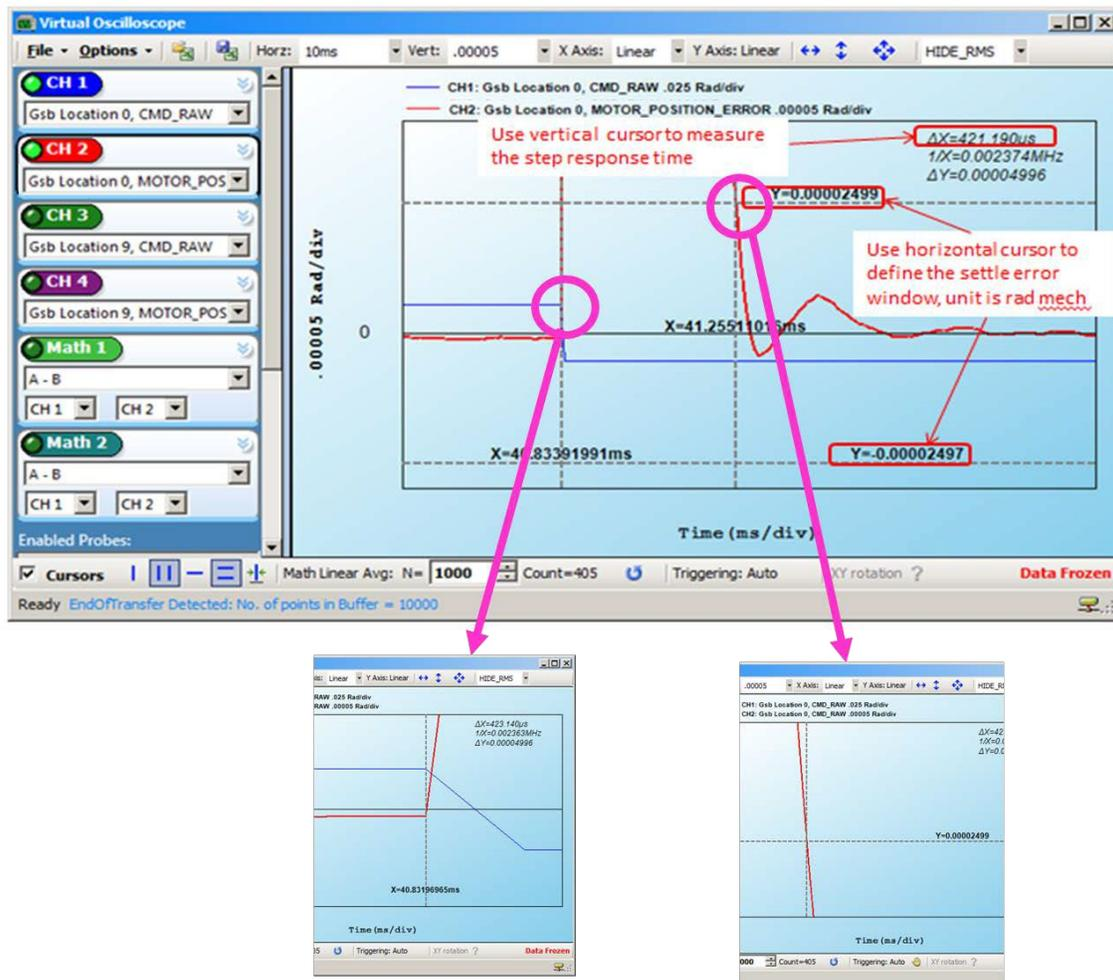

Figure 11 - Measure Step Response Time
3. Turn on the horizontal double cursors, and drag the cursors to define the error window (unit is rad mech) within which the scanner is considered to be ‘settled’ to thefinal position of the step. Refer to Figure 11.
4. Turn on the vertical double cursors, and drag the vertical cursor to measure the step response time. Place the 1st vertical cursor to when the step command is issued, or the motor position error starts to rise drastically. Place the 2nd vertical cursor to when the motor position error drops within the error window. Refer to Figure 11.